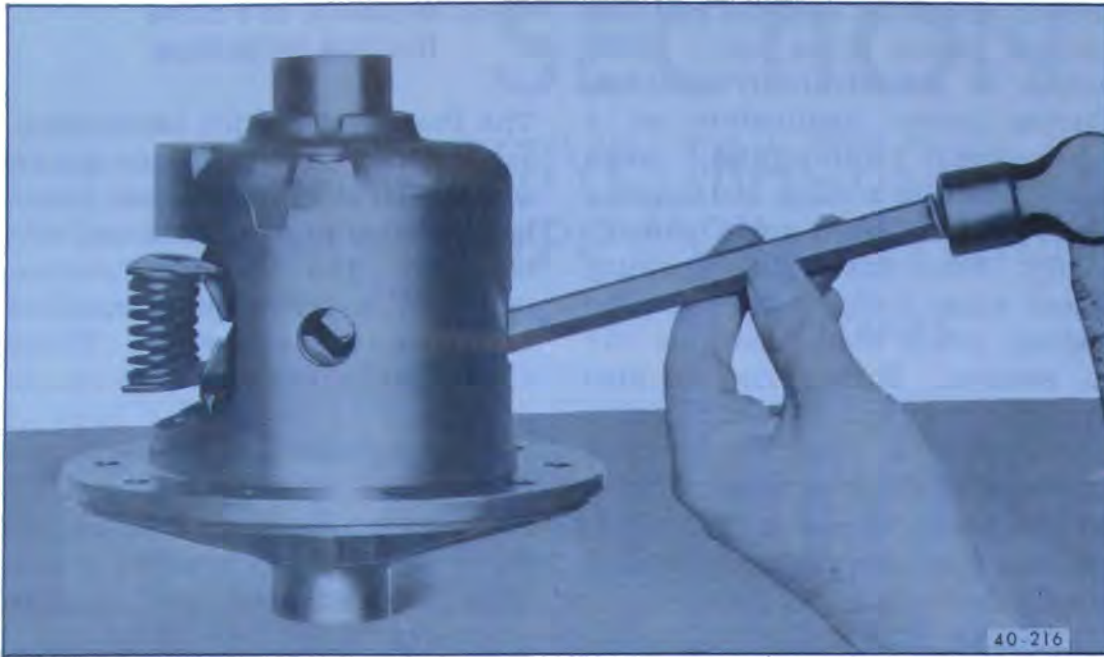

Figure 40-217—Partial Removal of Preload Springs and Retainers
3. Insert a brass drift through observation hole in the case and by tapping on the spring retainers, partially remove the preload springs and retainers. See Figure 40-217.